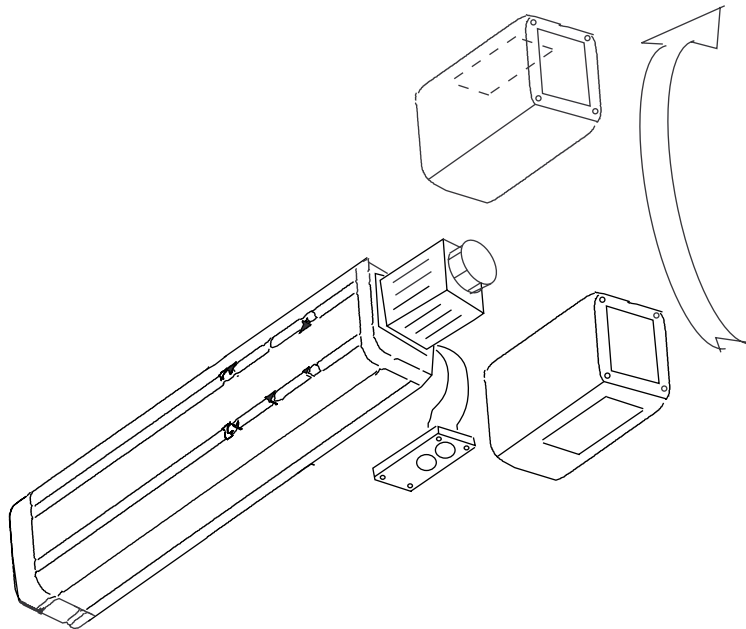

Figure C-3. Motor Cover Flipping
4. Flip motor cover over (see Figure C-3).